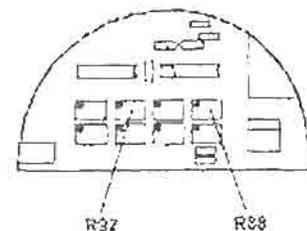

Figure 3-49. MBP output calibration.
(6) Set the "MBP POWER" to 70 watts by depressing the up (Δ) keyboard switch until 70 shows in the left-hand digital display.
(7) Activate a bipolar accessory switch (handswitching forceps) and observe the wattmeter while adjusting resistor R92 (fig 3-49) for 70 watts. Release the accessory switch.
(8) Activate the bipolar accessory switch again and observe the wattmeter while adjusting resistor R88 counterclockwise until it affects the wattmeter indication. Release the accessory switch.
(9) Turn the resistor R88 adjusting screw one full turn clockwise.
(10) Depress the white "STDBY" keyboard switch to return the ES apparatus to the standby mode.
(11) Place a small dab of sealing compound on the resistor adjustment screws to lock them at their new settings.
(12) Remove the wattmeter.
(13) Proceed to the next calibration requirement or reassemble the ES apparatus by following the procedures contained in paragraph 3-37c.